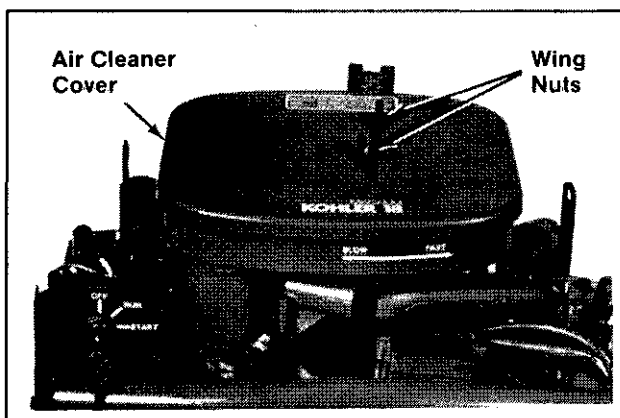

Figure 9-3. Removing Air Cleaner Cover.
1. Remove the wing nuts and air cleaner cover. Refer to Figure 9-3.